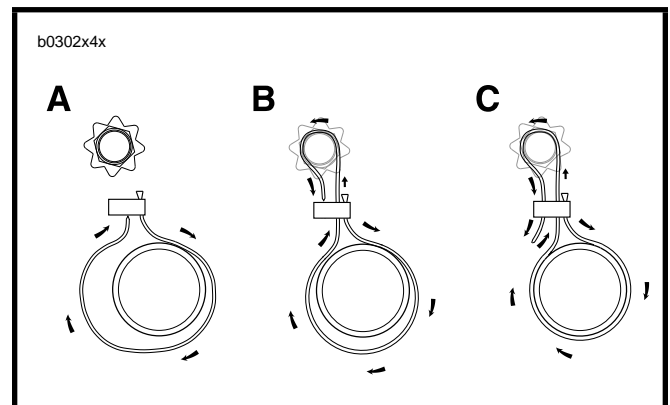

Figure 18. Cable Strap
2. See Figure 18. Secure adjuster to frame with a figure-8 cable strap.